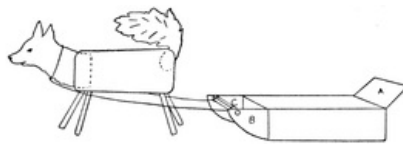

FIG. 145
**An Eskimo Sledge** (Fig. 145). The sledge is made of a match-box turned upside down; one end, A, is bent back as in diagram; the other end, B, is cut in half, bent outward and shaped as in diagram. A match, C, is glued to the ends, and to this is tied the thread that harnesses the dogs. A team consists of twelve dogs.